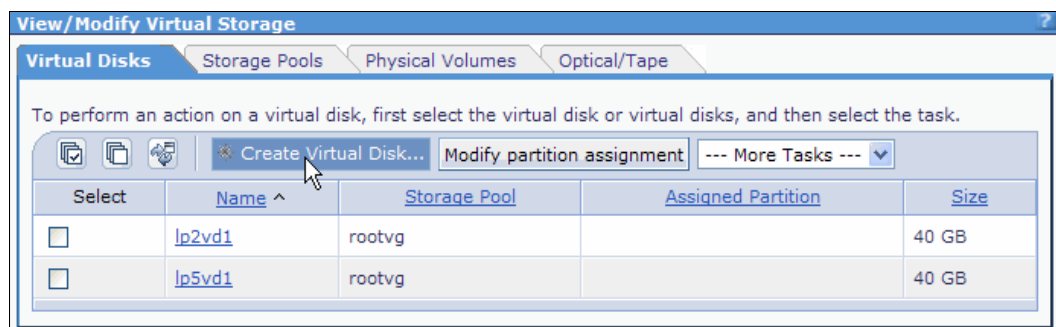

Figure 4-10 Create virtual storage
2. Under the **Virtual Disks** tab in the work area, click **Create Virtual Disk** as shown in Figure 4-10.